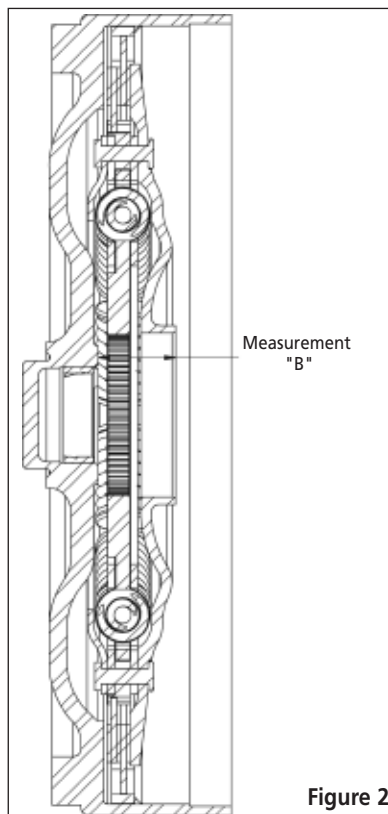

Figure 2
13. Then place the clutch plates and piston into the front cover (Figure 2). Measure from the inner lip of the piston to the thrust face of the front cover ("B" measurement from Figure 2).